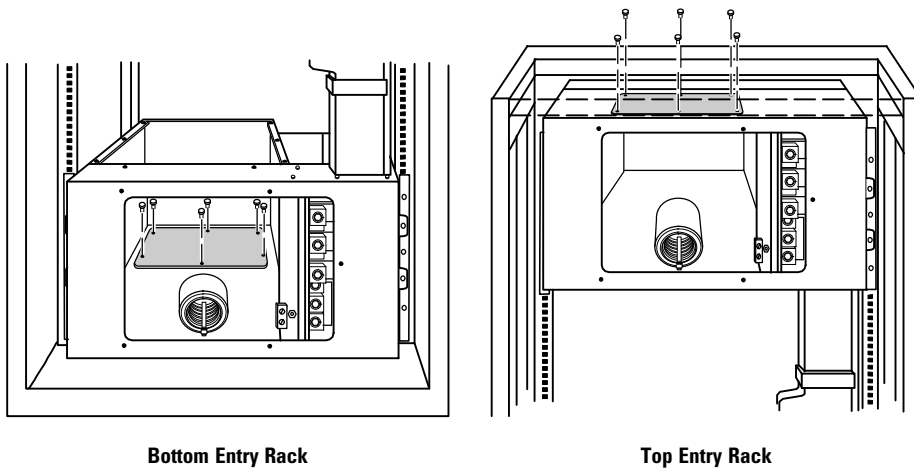

Figure 7. Removing the Conduit Landing Plate
- Remove the six screws on the conduit landing plate and retain. Remove the plate and retain. See Figure 7.